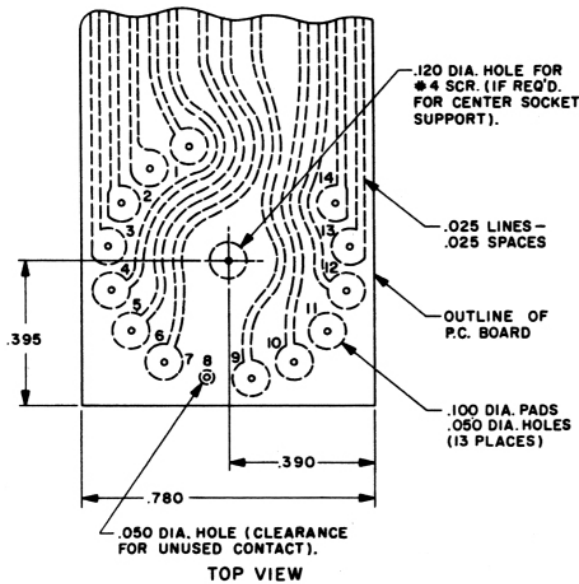

Figure 3. RECOMMENDED PRINTED CIRCUIT BOARD LAYOUT
Recommended Printed Circuit Board Layout	Figure 3, Notes 4 & 5
- The recommended printed circuit board layout for the B-5441 socket is shown with a run to terminal 6 (left decimal point) and no run to terminal 11 (right decimal point). If terminal 11 is to be used instead of terminal 6, omit the run to terminal 6, reposition runs 7, 9 and 10, and add a run to terminal 11. For the Type B-5440, the run can be omitted. See Figure 3